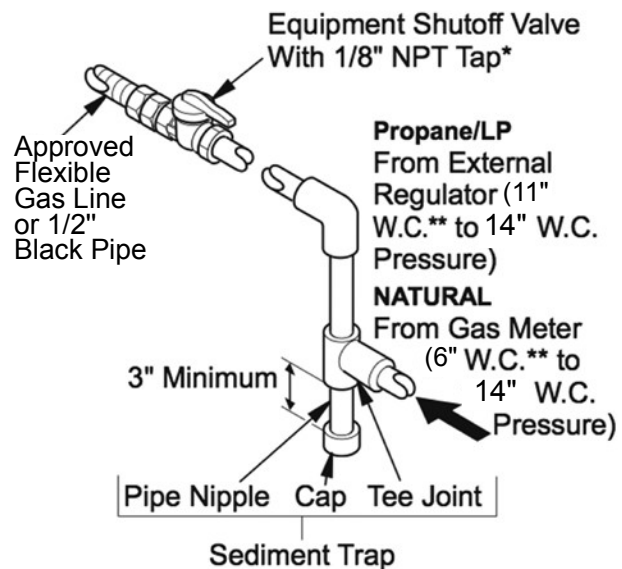

Fig. 10 - Gas Connection
- ⚠ CAUTION:** Use only new black iron or steel pipe. Internally tinned copper tubing may be used in certain areas. Check your local codes. Use pipe of $\frac{1}{2}$ in. diameter or greater to allow proper volume gas to heater. If pipe is too small, loss of pressure will occur. Installation must include an equipment shutoff valve, union, and plugged 1/8-in. NPT tap. Locate NPT tap within reach for test gauge hook up. NPT tap must be upstream from heater (See Fig. 10).
⚠ CAUTION: Use pipe joint sealant that is resistant to gas (PROPANE or NG). We recommend that you install a sediment trap in a supply line as shown in Fig. 10. Locate sediment trap where it is within reach for cleaning and not likely to freeze. Install in the piping system between fuel supply and heater. A sediment trap traps moisture and contaminants. This keeps them from going into heater controls. If sediment trap is not installed or is installed incorrectly, heater may not run properly.